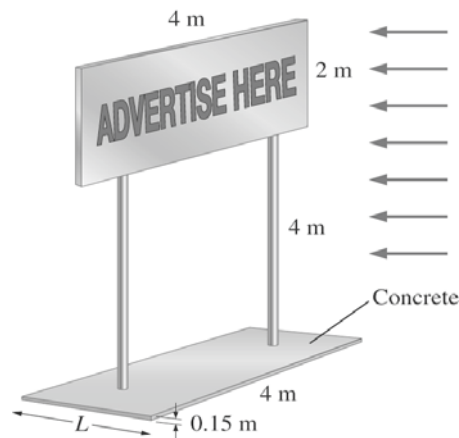

Figure Q3[a]
- Q3. [a]** A 2m high, 4m wide rectangular advertisement panel is attached to a 4m wide, 0.15m high rectangular concrete block (*density* = 2300 kg/m^3) by two 5cm diameter and 4m high (exposed part) poles as shown in Figure Q3[a]. If the sign is to withstand 150km/h winds from any direction,